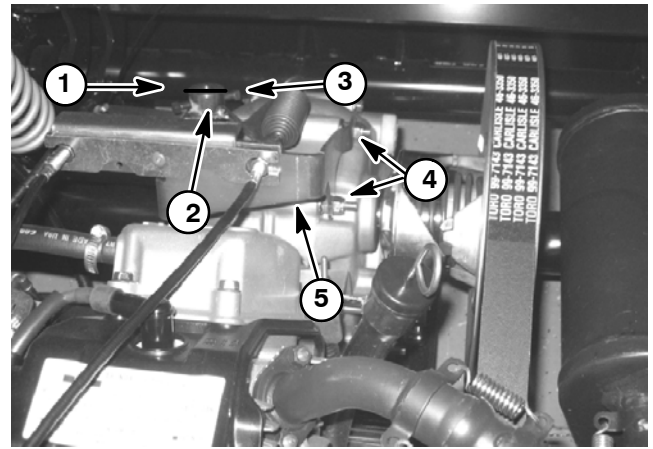

Figure 23
6. On Workman MD, remove governor and cable brackets from the transaxle as follows (Fig. 23).
7. On Workman MD, secure governor and cable brackets to the transaxle as follows (Fig. 23).